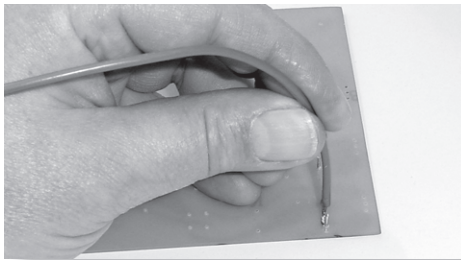

FIGURE 5.23 The connecting lead should be vertically aligned with the terminal pin, and touching it.
- **HOLD** the tinned end of the connecting lead against the tinned terminal pin, as shown in Figure 5.23